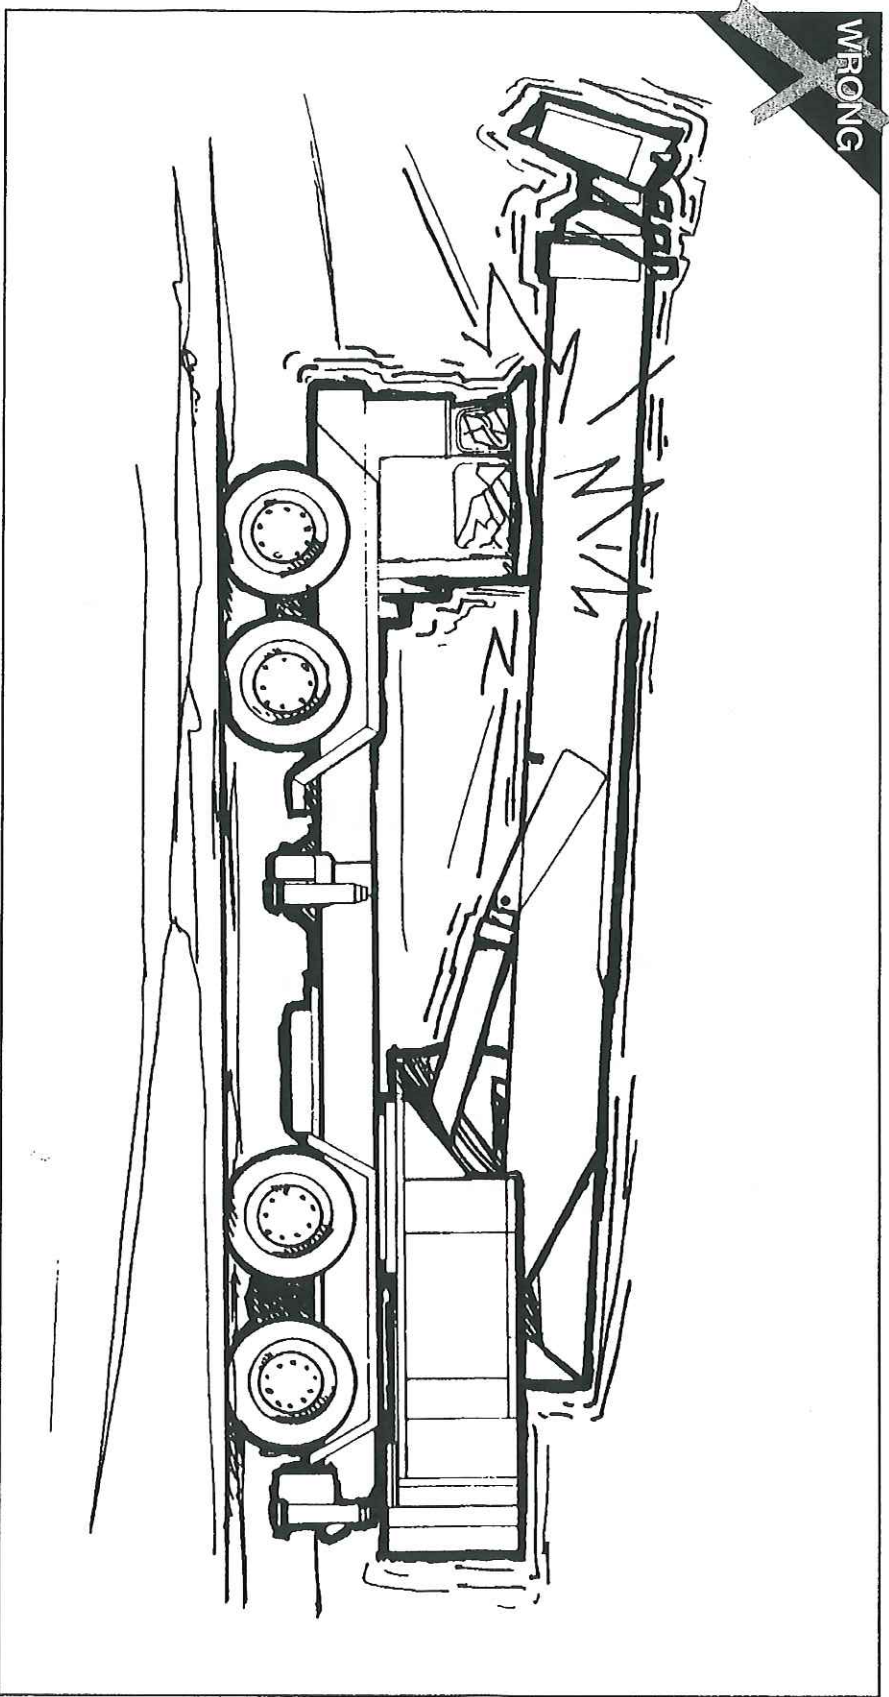

FIG. 32
WATCH OUT FOR THE CARRIER (FIG. 32)
- Do not lower or swing the boom into the carrier's cab. (FIG. 32)